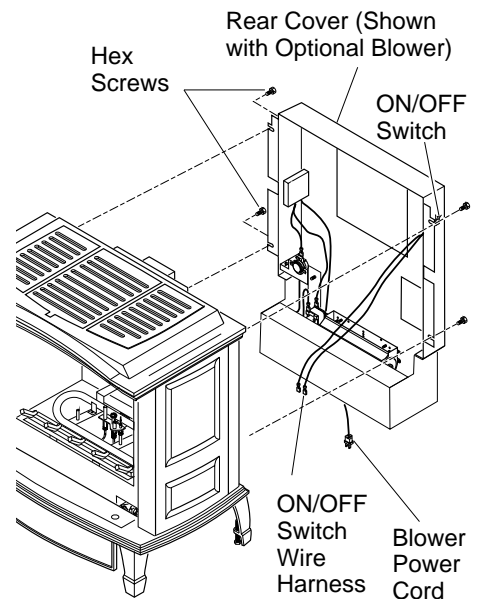

Figure 21 - Installing Rear Cover (Shown with Optional Blower Accessory)
- Using screws provided, attach rear cover to back of stove body. See Figure 21.